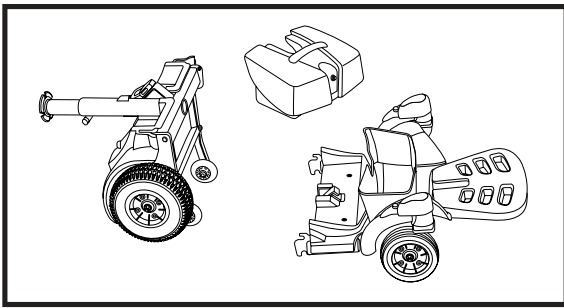

Figure 13. Rear Section Positioning
1. Tilt the Go-Chair rear section rearward onto the anti-tip wheels. See figure 13.